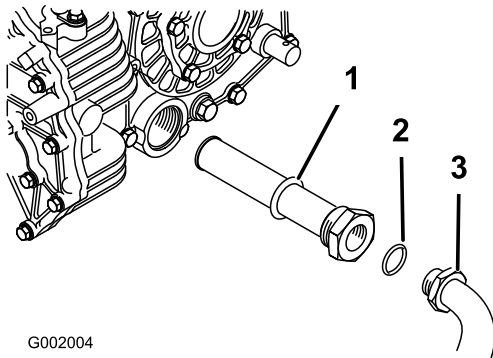

Figure 63
- Remove the hydraulic hose and 90 degrees fitting (Figure 63).